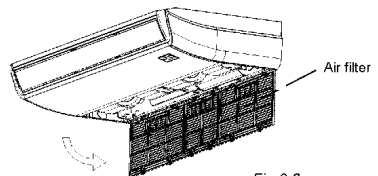

Fig. 6-2
- Take out the air filter.(Refer to Fig.6-2)
- Re-install the air filter in the reverse order of Fig.6-2.